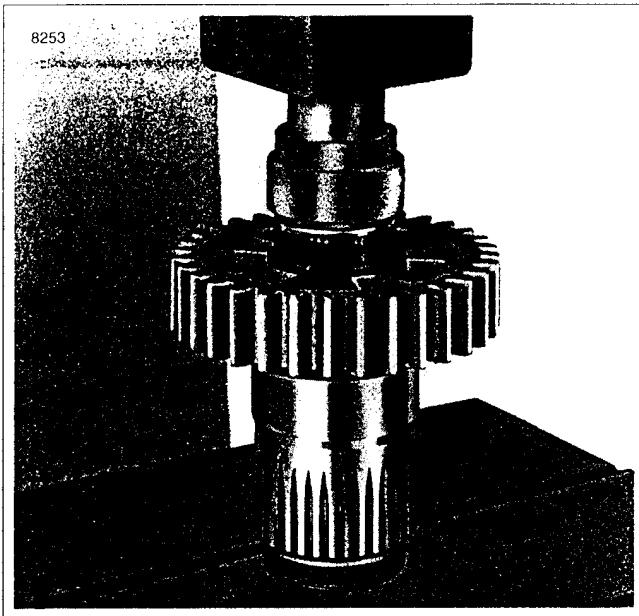

Figure 7-41. Installing Transmission Side Needle Bearing in Main Driver Gear
11. See Figure 7-41. Turn over the main drive gear in the arbor press. With the tool at the 0.090 in. step, press in inner bearing.